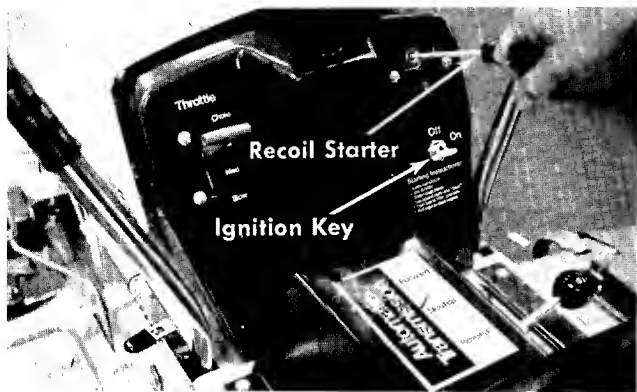

FIGURE 14. RECOIL STARTER
- a. Turn the ignition key to the ON position. See figure 14.
- c. Slowly release the recoil starter and lock it into the dashboard as shown in figure 14.